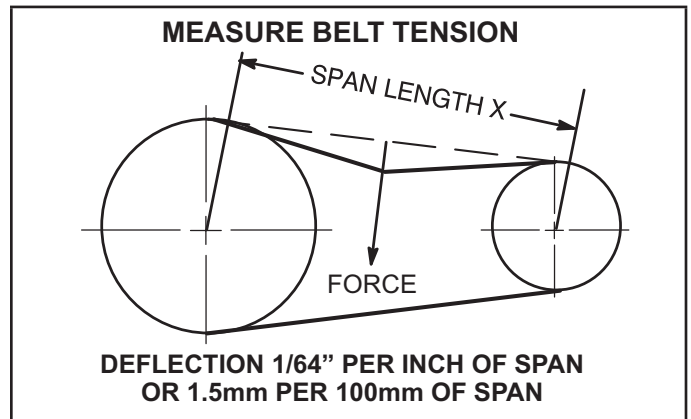

FIGURE 15
- 1 - Measure span length X. See figure 15.
- 2 - Apply perpendicular force to center of span (X) with enough pressure to deflect belt 1/64" for every inch of span length or 1.5mm per 100mm of span length.